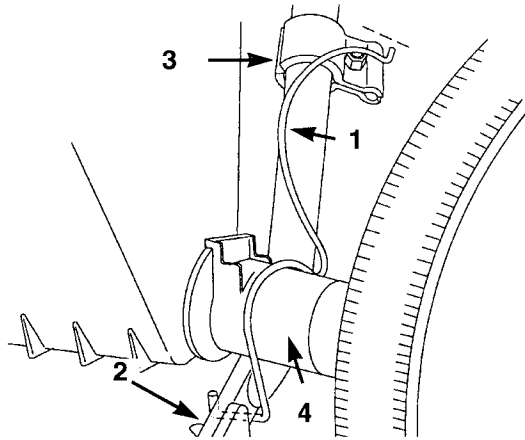

Figure 61
- B. Hook the hold-down spring under the mower handle and between the control cable (Fig. 61).
- C. Rotate the hold-down spring over the axle support and toward the clamp (Fig. 61). While keeping the clamp at a 45° angle to the ground, move the clamp so its back edge lines up with the end of the hold-down spring and secure the clamp in place by tightening the lock nut.